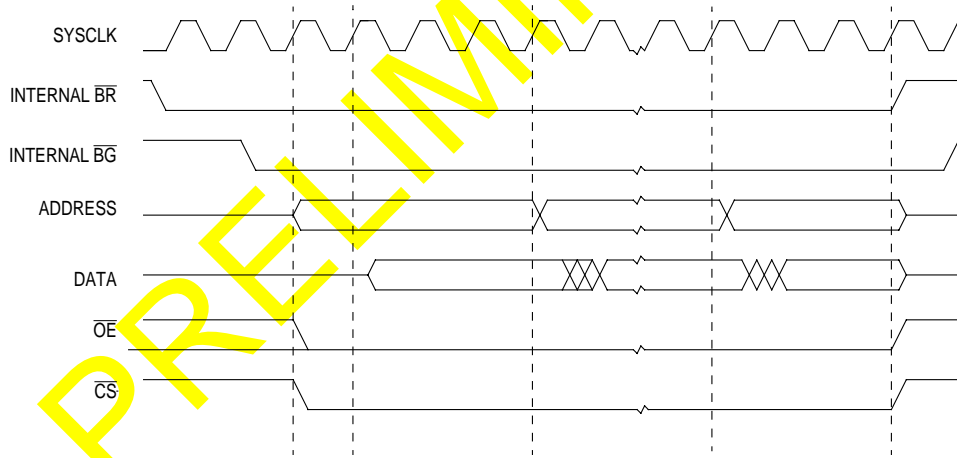
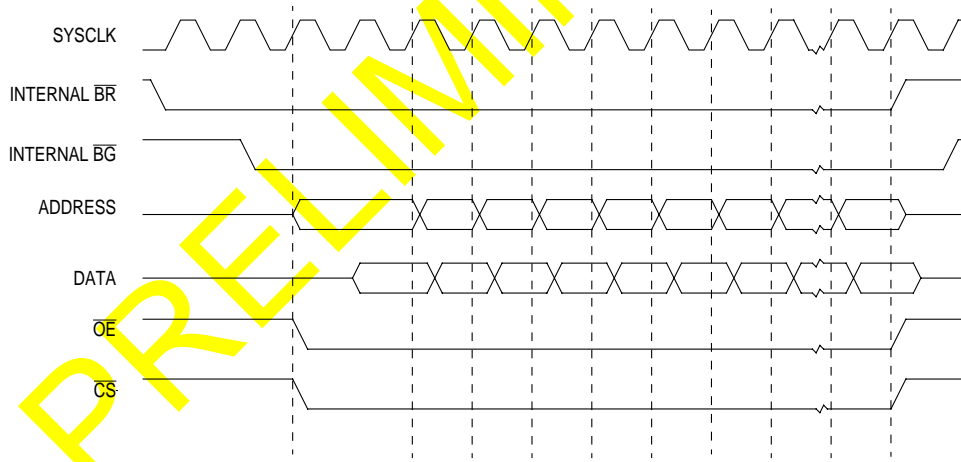

Figure 8-2. Three Clocks per LCD DMA Transfer (Two Wait States)
Figure 8-3. One Clock per DMA Transfer (0 Wait States)
The screen DMA controller periodically generates a bus request (\overline{BR}) signal to the MC68EC000 core and when it receives a bus grant (BG) signal, it performs a 16- or 8-word memory burst to fill the line buffer. You can program the number of DMA clock cycles (1 to 16) per transfer to support systems with variable memory speed requirements. When the DMA transfer begins, one clock cycle is added to the first data word and the number of clock cycles selected. As shown in Figure 8-2 and Figure 8-3, this gives the initial chip-select memory more time without generating a clock cycle penalty on subsequent data transfers of the line fill.
As shown in Figure 8-2 and Figure 8-3, data is efficiently fetched from memory. Each burst is limited to 8/16 words, which reduces the possible latency for other peripherals, such as the interrupt controller. For example, the average latency for $LCDCLK = 5MHz$ with a 16-word burst is approximately 2.4 μs .
8.2.2.1 LCD DATA BUS SIGNALS. The LD3–LD0 signals output bus transfers pixel data to the LCD panel for display. Data is arranged differently on the bus depending on the LCD data-width mode selected, as shown in Figure 8-3. System software can also program the output pixel data to be inverted. See **Section 8.6.2 LCD Polarity Configuration Register** for more information.